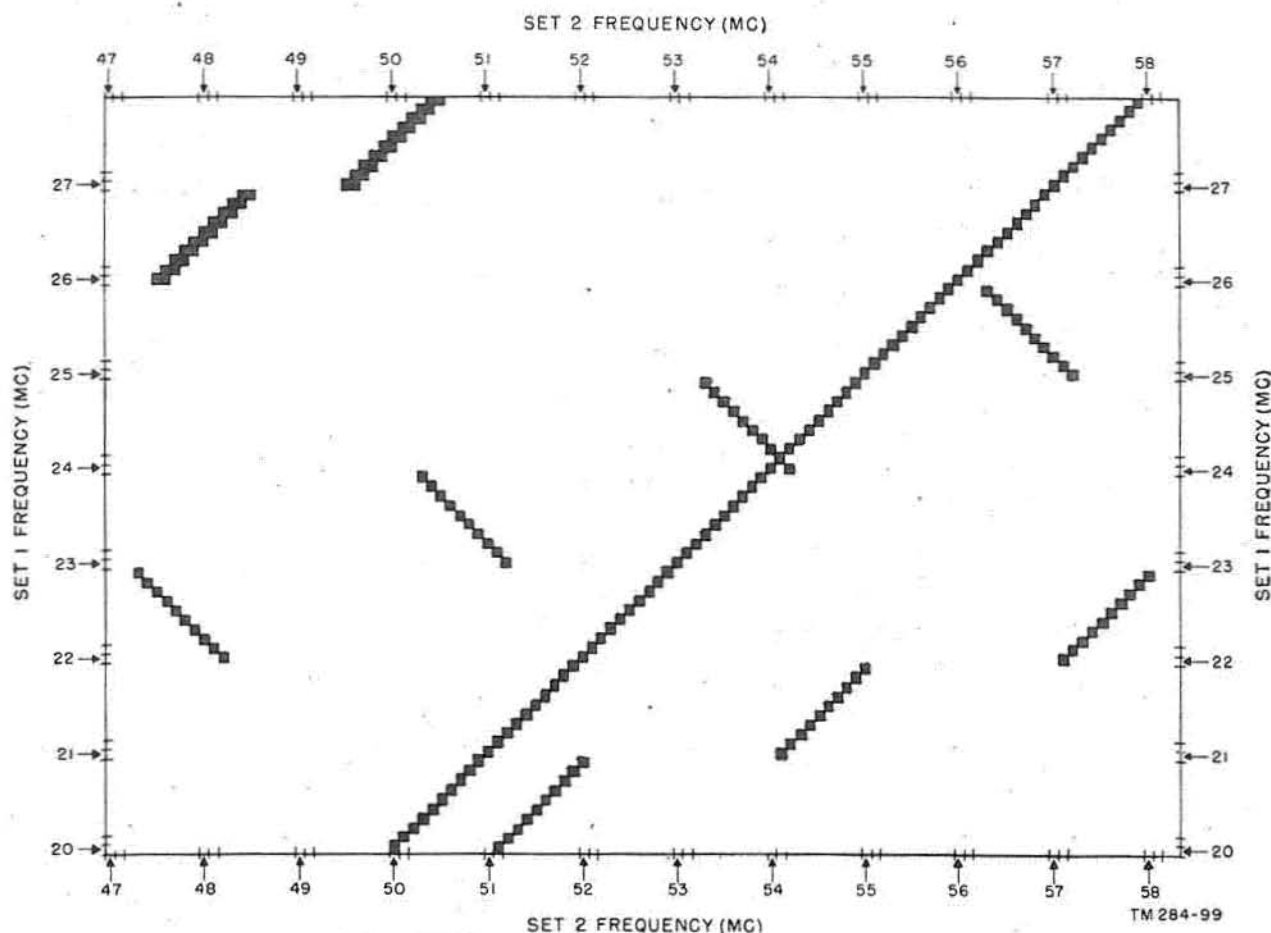
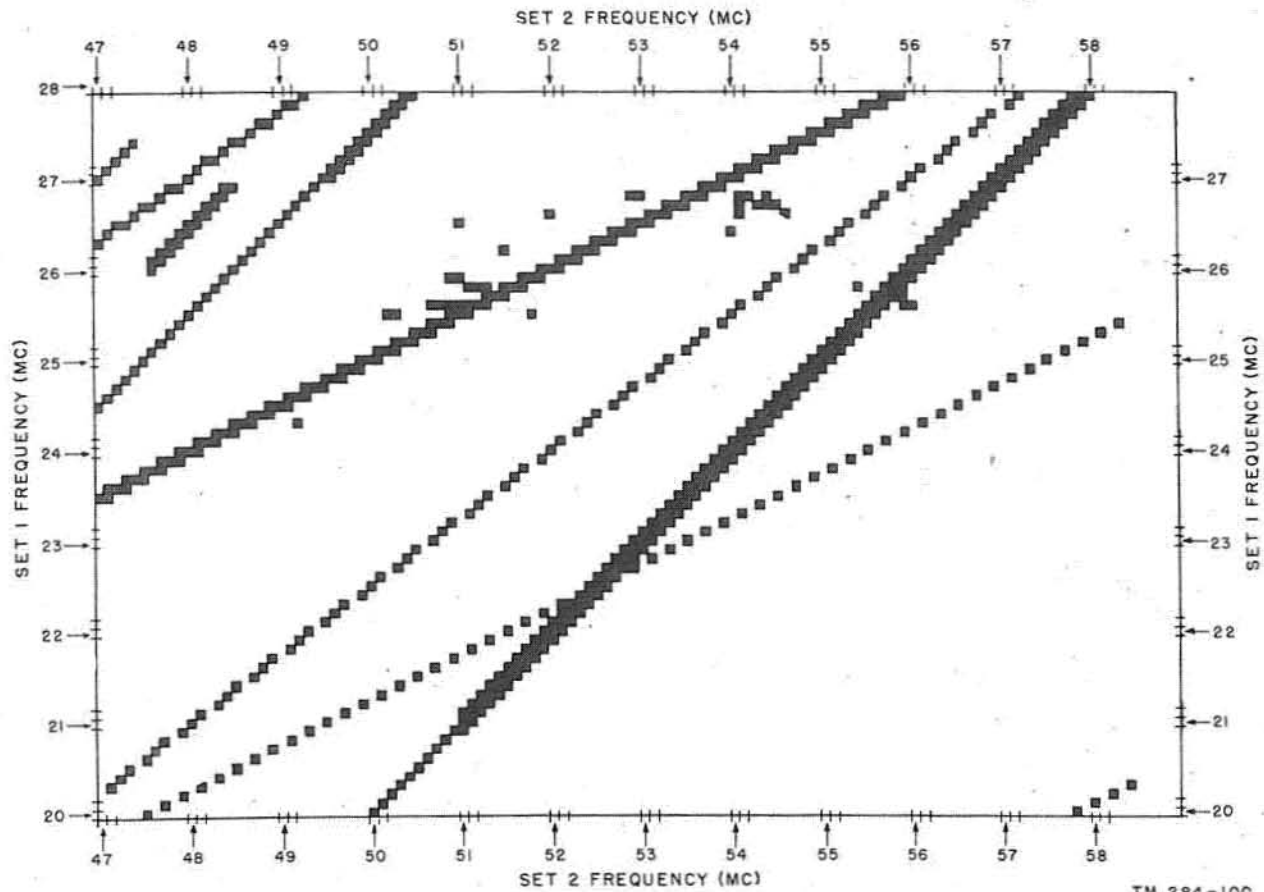
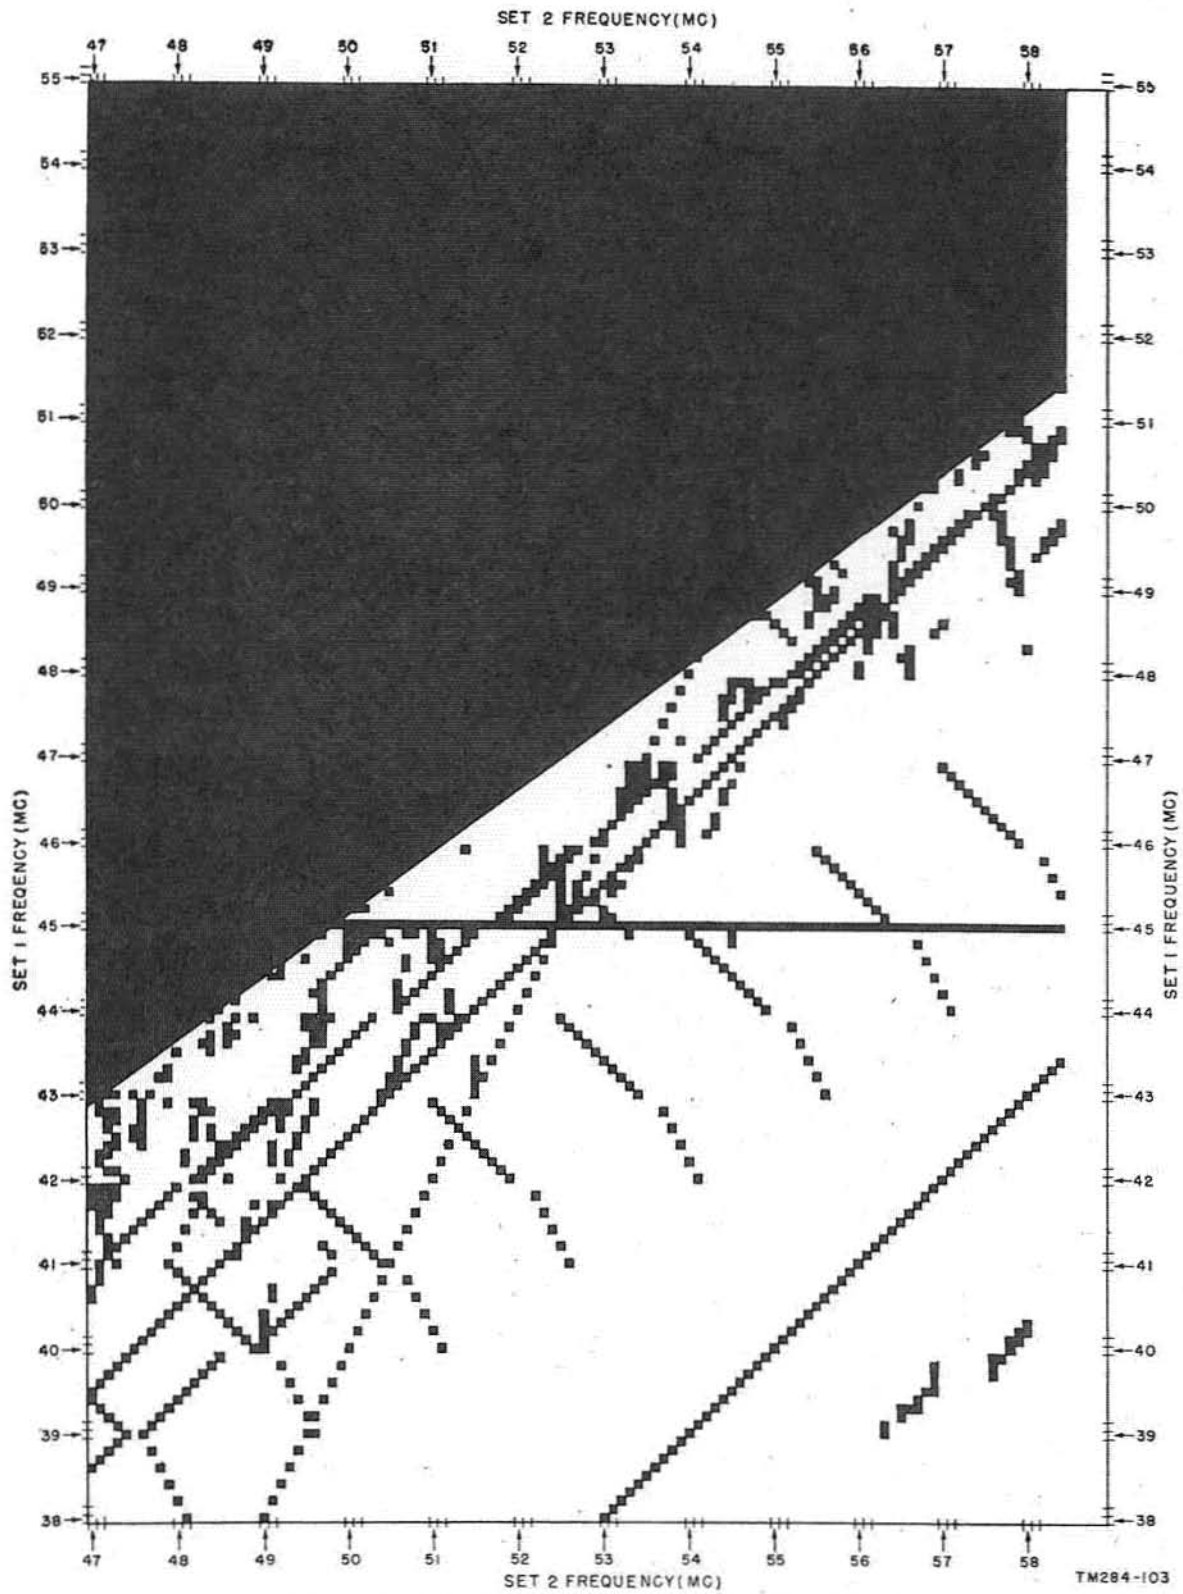

Figure 42. Set 1, Set 2 interference chart No. 1 for radio sets AN/GRC-3 and -4.
Figure 43. Set 1, Set 2 interference chart No. 2 for radio sets AN/GRC-3 and -4.
Figure 46. Set 1, Set 2 interference chart No. 1 for radio sets AN/GRC-7 and -8.
a. INTERFERENCE PROBLEMS. The tuning of Sets 1 and 2 involves not only the simple mechanics of control settings (pars. 68 and 69), but also a problem of frequency selection. Frequency selections must be made to avoid interference between the two receiver-transmitters. Interference charts (figs. 42 through 47) have been prepared to indicate those frequencies at which interference-free operation can be expected with Set 1 transmitting and Set 2 receiving or vice versa. Figures 42 and 43 pertain to Radio Sets AN/GRC-3 and -4 which utilize Receiver-Transmitter RT-66/s GRC as Set 1; figures 44 and 45 pertain to Radio Sets AN/GRC-5 and -6 which utilize Receiver-Transmitter RT-67/GRC as Set 1; and figures 46 and 47 pertain to Radio Sets AN/GRC-7 and -8 which utilize Receiver-Transmitter RT-68/GRC as Set 1.
b. NATURE OF CHARTS. Each square on the interference charts represents the intersection of two frequencies, one plotted from left to right for Set 2, the other plotted from bottom to top for Set 1. On figure 42, for example, Set 2 transmitting frequencies are plotted from left to right across the chart and Set 1 receiving frequencies are plotted from bottom to top of the chart. The
b. For retransmission each set may be used alternately as a receiver and as a transmitter. It is necessary, therefore, that the possibility of interference be checked for both conditions of operation. For example, when Radio Set AN/GRC-3 or -4 is being used for retransmission operation, the frequencies of operation must be checked on figure 42 for the Set 2 Transmitting-Set 1 receiving condition, and on figure 43 for the Set 2 Receiving-Set 1 transmitting condition.